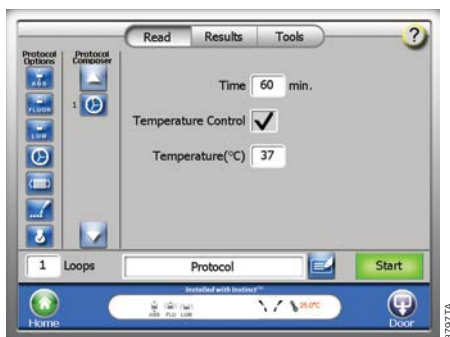

Figure 17. Setting the Incubation Parameters without Plate Read.
2. Select and drag the “Incubation” icon from the Protocol Options to the Protocol Composer (Figure 17).